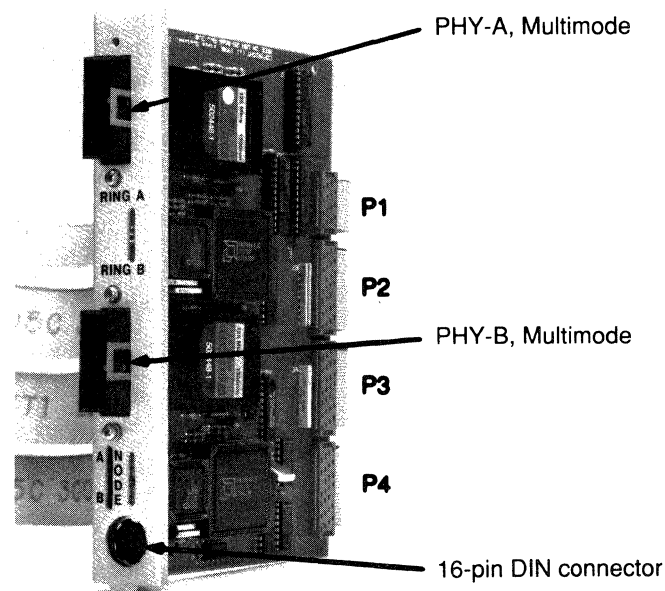
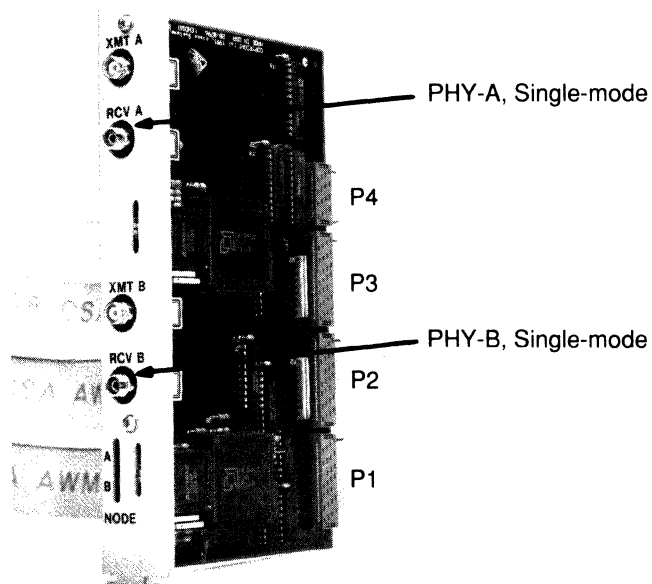

Figure 4-15 FDDI Applique, Multimode/Multimode
Figure 4-18 FDDI Applique, Single Mode/Single Mode
The fiber-optic transceivers, which reside on appliques, provide the interface between external network connections and the internal FDDI network interface card. The four applique configurations are shown in Figure 4-15 through Figure 4-18; each provides a unique combination of FDDI media interfaces. The four mode combinations are:
- PHY-A multimode, PHY-B multimode (APP-LMM)—see Figure 4-15.
- PHY-A single mode, PHY-B single mode (APP-LSS)—see Figure 4-18.
- Step 8:** If you have an optical bypass switch, plug the bypass switch into the DIN connector on the multimode/multimode applique (see Figure 4-15), then plug the fiber-optic cables into the MIC connectors on the optical bypass switch. Up to 100 milliamperes of current may be supplied to the optical bypass switch. The pinouts for the DIN connector are provided in Appendix B.
Step 11: Externally, attach the fiber-optic network interface cables from the FDDI network to the PHY-A and PHY-B connectors on the appliques; see Figure 4-15 through Figure 4-18.